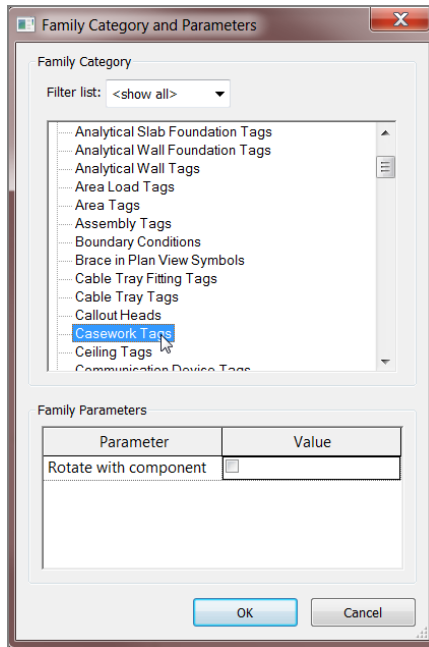

FIGURE 11.72: Selecting Casework Tags
3. In the Family Category And Parameters dialog box, select **Casework Tags**, as shown in Figure 11.72.